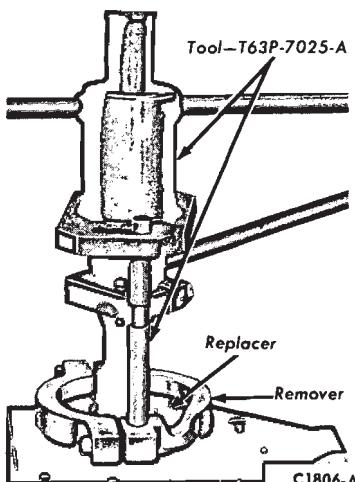

FIG. 24—Installing Output Shaft Rear Bearing
19. Install the large snap ring on the rear bearing. Place the bearing on the output shaft with the snap ring end toward the rear of the shaft. Press the bearing into place with the tool shown in Fig. 24. Secure the bearing to the shaft with a snap ring.